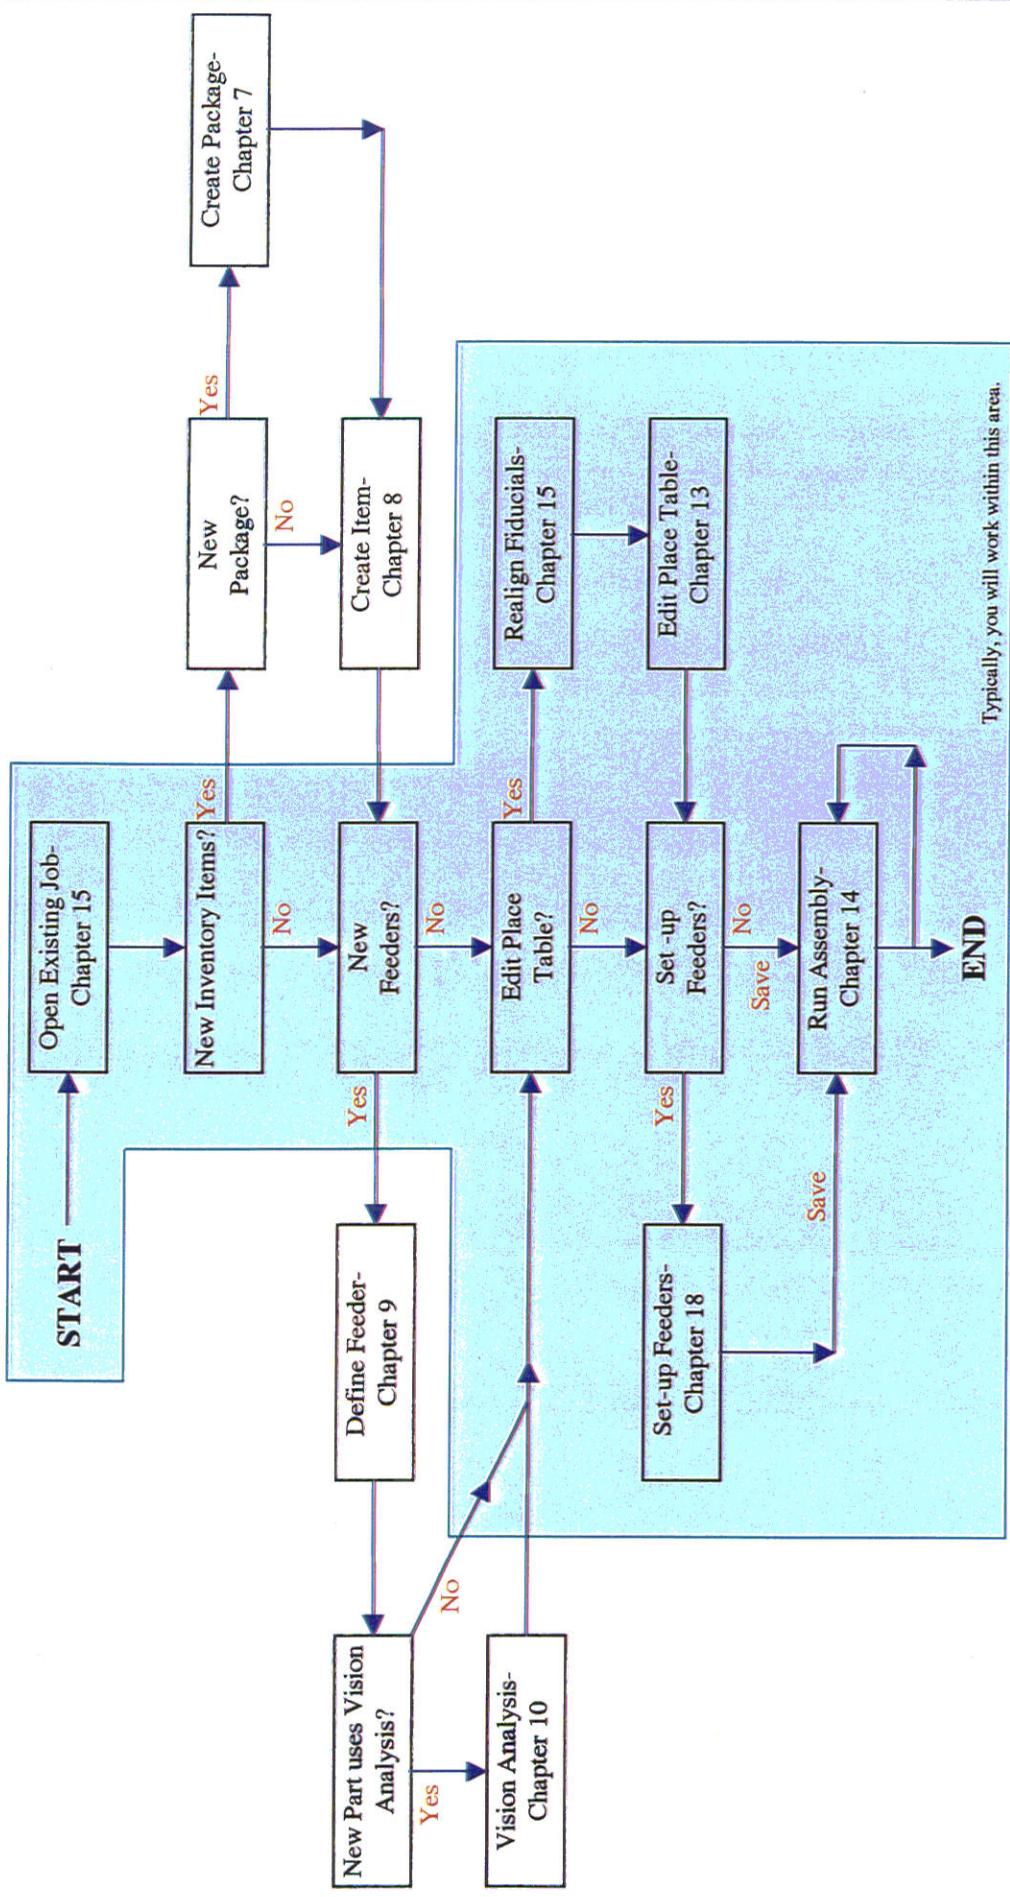

Figure 16-3
- To Edit and Assemble an Existing Job see the flow diagram in Figure 16-3.